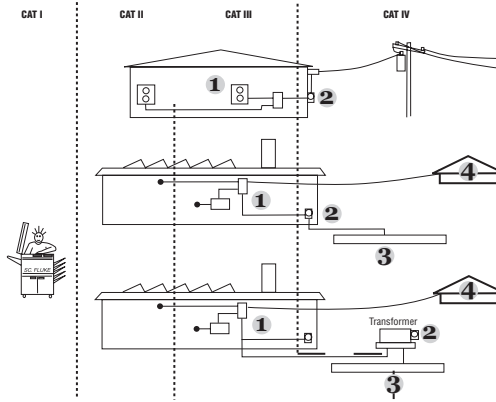

figure 1
**Measurement Categories, refer to figure 1 (page 2)**